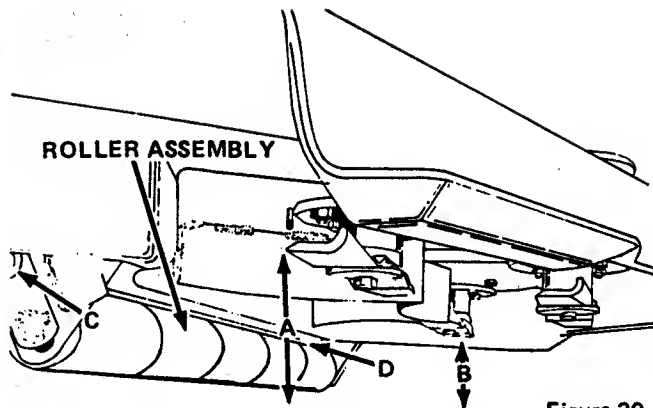

Figure 39
5. Rotate the blades until they are parallel to the roller assembly as shown in Figure 39. Measure distances A and B (from end of blade tips to the floor). These distances should be equal. If they are not equal, loosen roller assembly adjusting bolt C or D and pivot the mower down or up until distances A and B are equal with the roller resting firmly on the floor.